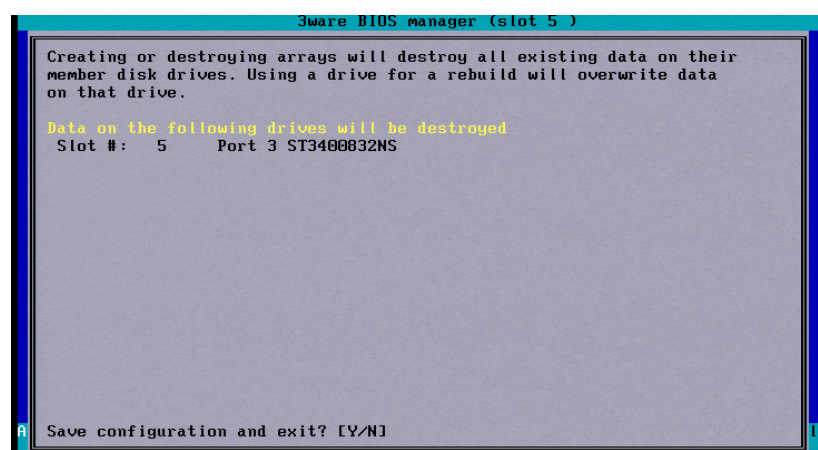

Figure 14 Final Warning Message
10. Press <F8> to display a final warning message, indicating that the rebuild process will destroy any existing data on the replacement drive, as shown in Figure 14.